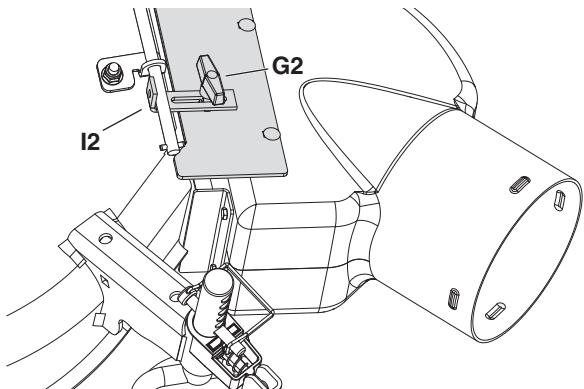

FIGURE 34
- With boot against mower deck, slide mounting bracket (I2) under axle of discharge chute. Tighten the 5/16" wing knob (G2). See figure 34.